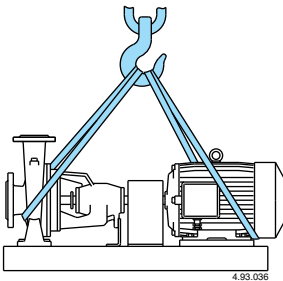

Fig. 1 Sling with ropes for lifting the pump-motor unit.
**N, N4 pumps** (with nominal duty points and main dimensions in accordance with EN 733 are intended for use with standard electric motors in IM B3 construction form (IEC 34-7, IEC 72), connected by means of a baseplate and driven by a flexible coupling. The pump-motor units are intended for use in the horizontal position. Lift and transport the pump-motor unit as indicated in **fig. 1**.